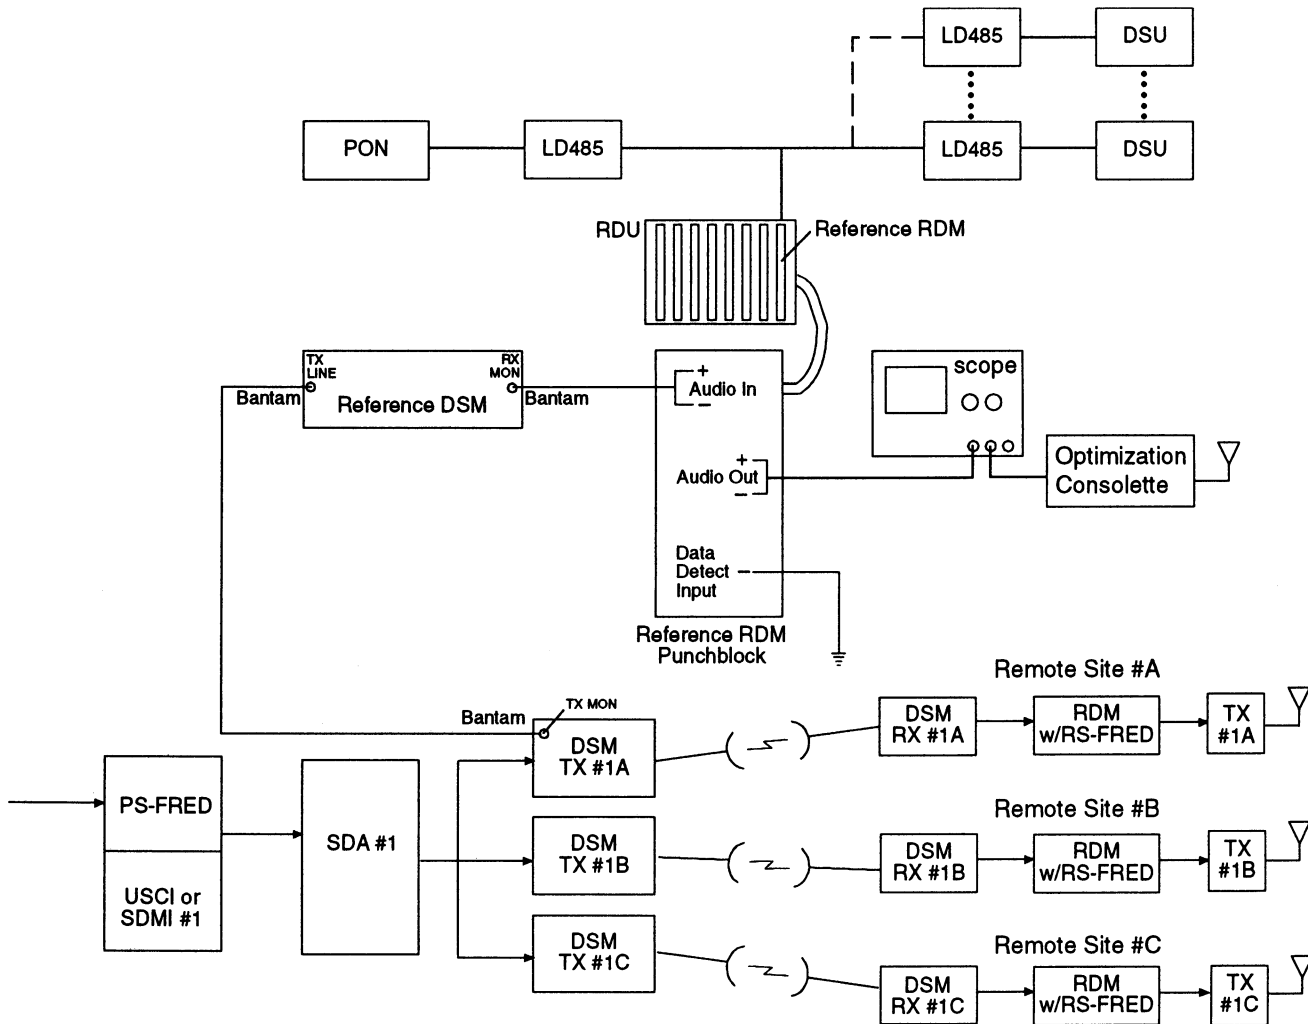

Figure 38. Four-Level Phasing Equipment Setup
- Step 3. Refer to Figure 38 and set up your equipment for phasing a four-level system.